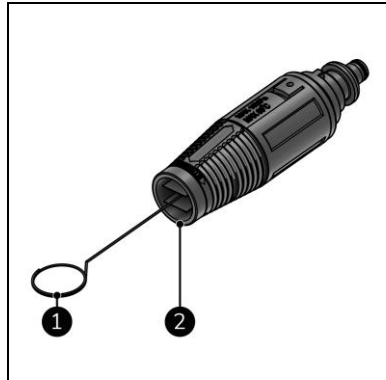

Figure 21
3. Pull the nozzle (Figure 21, pos. 2) from the extension lance (Figure 5, pos. 1).
4. Clean the nozzle with the cleaning pin (Figure 21, pos. 1).